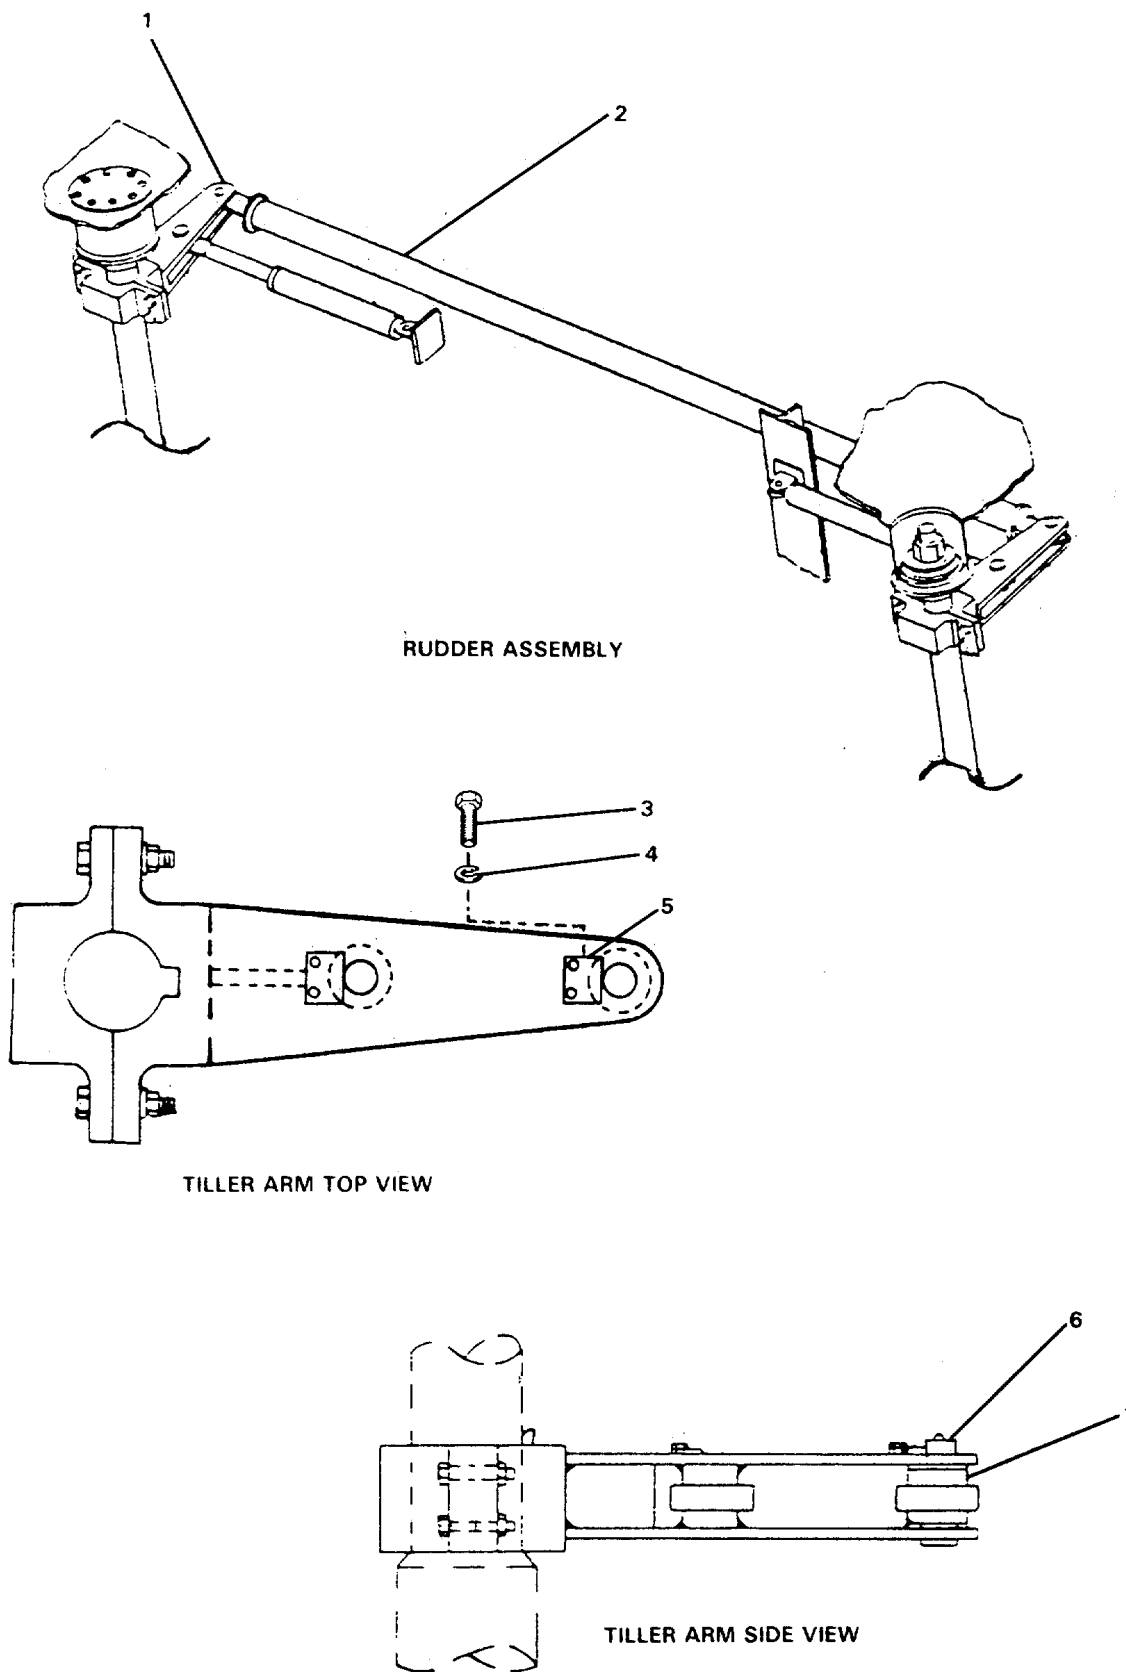

FIGURE 4-2. Jockey Bar Assembly.
- (1) Restore power to pumpset.
- (2) Check for leaks.
- (3) Return pumpset to normal operation (TM 55-1905-223-10).
- (4) Remove "Out of Service - Do Not Operate" tag from circuit breaker.
**4-9. Replace/Repair Jockey Bar Assembly. (FIGURE 4-2)**